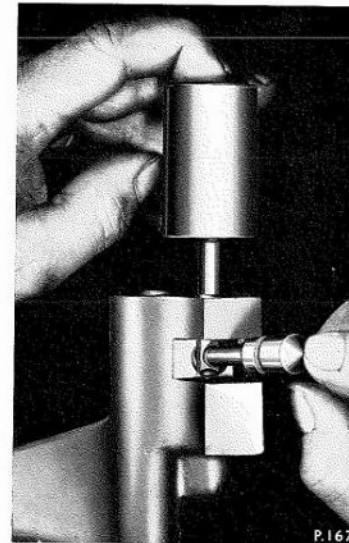

Fig. E.9. Re-assembling the reverse stop plunger to the reverse selector fork using Churchill Tool R.G.81
2. Re-assemble the reverse stop plunger to the reverse selector fork using Churchill Tool R.G.81 (see Fig. E.9) as follows: